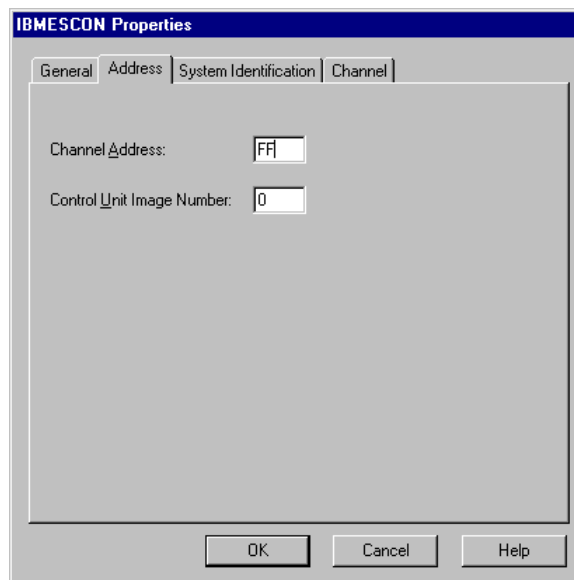

Figure 8-13. Channel Address
4. The Channel Address dialog box appears (Figure 8-13).